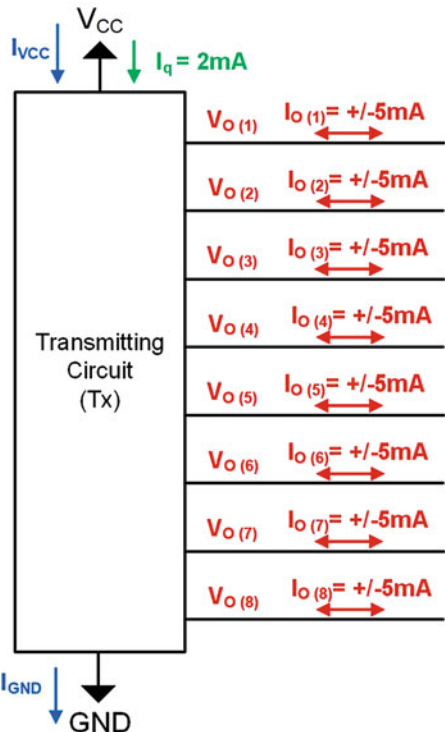

Fig. 3.38
- 3.2.13 For the driver configuration in Fig. 3.38, give the current flowing through the V_{CC} pin if all of the output pins are driving a HIGH.
- 3.2.14 For the driver configuration in Fig. 3.38, give the current flowing through the GND pin if all of the output pins are driving a HIGH.
- 3.2.15** For the driver configuration in Fig. 3.38, give the current flowing through the V_{CC} pin if all of the output pins are driving a LOW.
- 3.2.16** For the driver configuration in Fig. 3.38, give the current flowing through the GND pin if all of the output pins are driving a LOW.
- 3.2.17** For the driver configuration in Fig. 3.38, give the current flowing through the V_{CC} pin if half of the output pins are driving a HIGH and the other half are driving a LOW.
- 3.2.18** For the driver configuration in Fig. 3.38, give the current flowing through the GND pin if half of the output pins are driving a HIGH and the other half are driving a LOW.
- 3.2.19** For the driver configuration in Fig. 3.38, give the current flowing through the V_{CC} pin if six of the output pins are driving a HIGH and two are driving a LOW.
- 3.2.20** For the driver configuration in Fig. 3.38, give the current flowing through the GND pin if six of the output pins are driving a HIGH and two are driving a LOW.
- 3.2.21** For the driver configuration in Fig. 3.38, give the current flowing through the V_{CC} pin if two of the output pins are driving a HIGH and six are driving a LOW.
- 3.2.22** For the driver configuration in Fig. 3.38, give the current flowing through the GND pin if two of the output pins are driving a HIGH and six are driving a LOW.
- 3.2.23** For the driver configuration in Fig. 3.38, if the maximum current allowed through the V_{CC} pin is 25 mA, is this specification violated if all of the outputs are driving a HIGH?
- 3.2.24** For the driver configuration in Fig. 3.38, if the maximum current allowed through the V_{CC} pin is 25 mA, is this specification violated if 6 of the outputs are driving a HIGH and 2 are driving a LOW?
- 3.2.25** For the driver configuration in Fig. 3.38, if the maximum current allowed through the V_{CC} pin is 25 mA, is this specification violated if half of the outputs are driving a HIGH and half are driving a LOW?
- 3.2.26** For the driver configuration in Fig. 3.38, if the maximum current allowed through the V_{CC} pin is 25 mA, is this specification violated if 2 of the outputs are driving a HIGH and 6 are driving a LOW?
- 3.2.27** For the driver configuration in Fig. 3.38, if the maximum current allowed through the V_{CC} pin is 25 mA, is this specification violated if all of the outputs are driving a LOW?
- 3.2.28** For the driver configuration in Fig. 3.38, if the maximum current allowed through the GND pin is 25 mA, is this specification violated if all of the outputs are driving a HIGH?
- 3.2.29** For the driver configuration in Fig. 3.38, if the maximum current allowed through the GND pin is 25 mA, is this specification violated if 6 of the outputs are driving a HIGH and 2 are driving a LOW?
- 3.2.30** For the driver configuration in Fig. 3.38, if the maximum current allowed through the GND pin is 25 mA, is this specification violated if half of the outputs are driving a HIGH and half are driving a LOW?
- 3.2.31** For the driver configuration in Fig. 3.38, if the maximum current allowed through the GND pin is 25 mA, is this specification violated if 2 of the outputs are driving a HIGH and 6 are driving a LOW?
- 3.2.32** For the driver configuration in Fig. 3.38, if the maximum current allowed through the GND pin is 25 mA, is this specification violated if all of the outputs are driving a LOW?